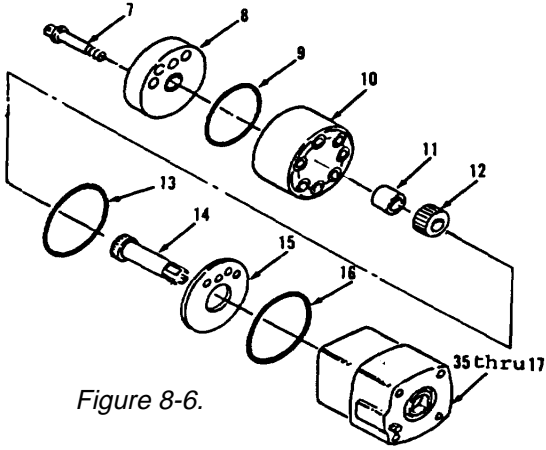

Figure 8-6.
- 8. Install new preformed packing (16), spacer (15), drive (14), new preformed packing (13), inner gear (12), spacer (11) and gerotor (10, Figure 8-6).